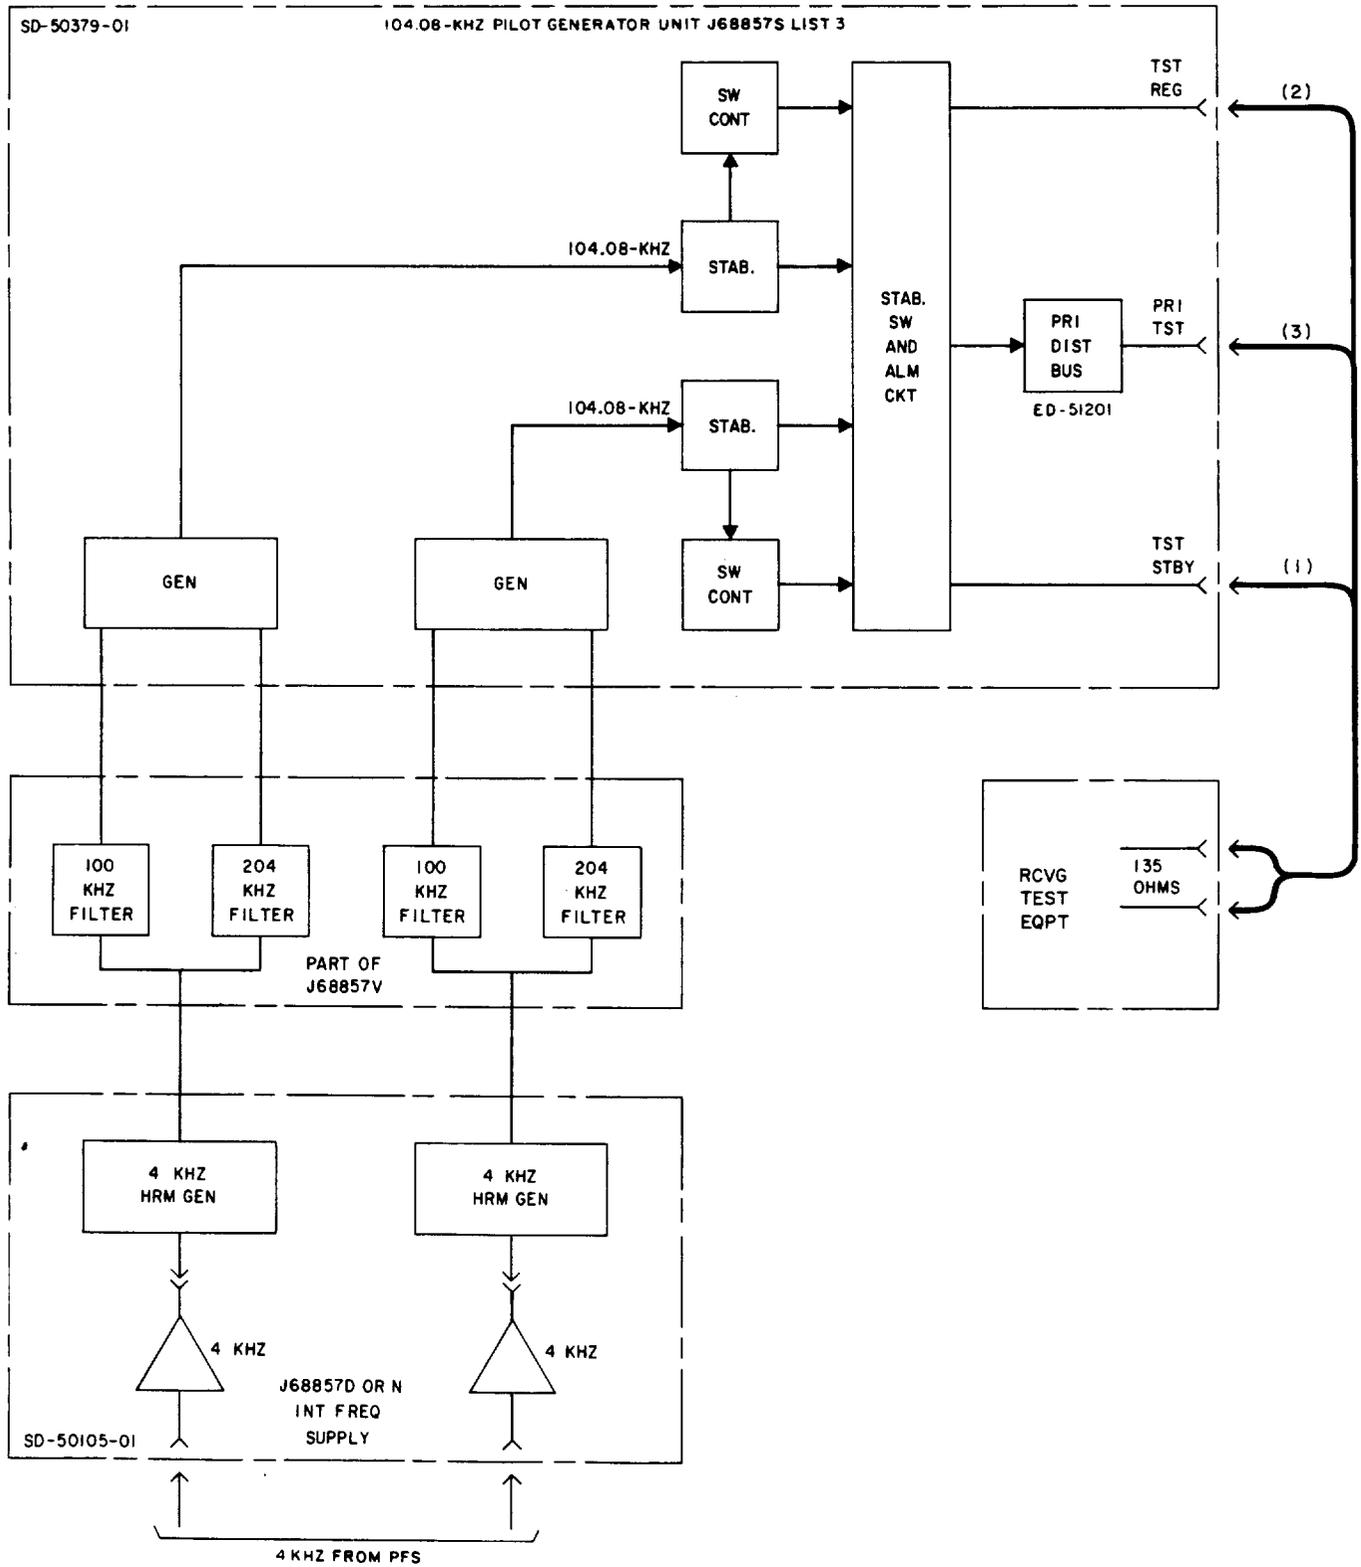

Fig. 8—Stabilizer Output and Primary Distribution Bus Tests for Pilot Supply J68857S List 3
2	Measure the pilot power at the TST STBY jack on the pilot supply panel [patch (1), Fig. 8].
8	Remove patch (1), Fig. 8.
9	Make patch (2), Fig. 8.
16	Remove patch (2), Fig. 8.
29	Measure the pilot power at the PRI TST jack on the pilot supply panel [patch (3), Fig. 8].